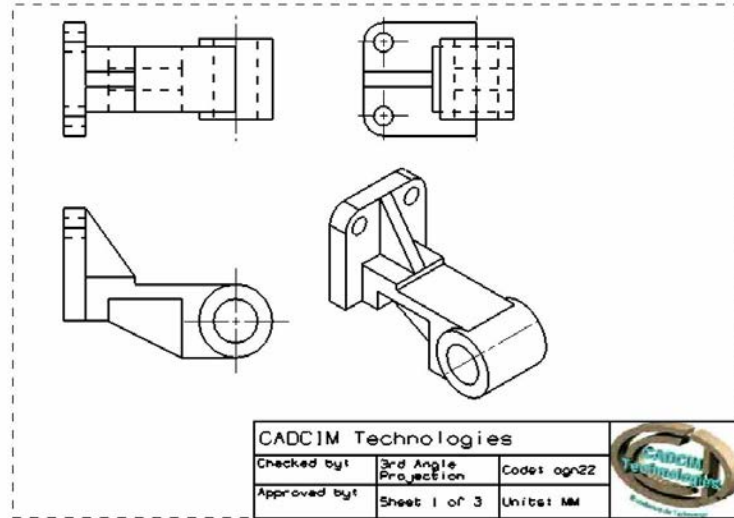

Figure 12-57 The final drawing sheet
- Insert the logo of a company into the tabular note, refer to Figure 12-57.
2. Position the image in the tabular note by using the handles. If necessary, choose the **Lock Aspect** button from the Image Display input box to unlock the scaling factor. After positioning the image, press the ESC key to exit. The complete drawing sheet after inserting the image is shown in Figure 12-57.